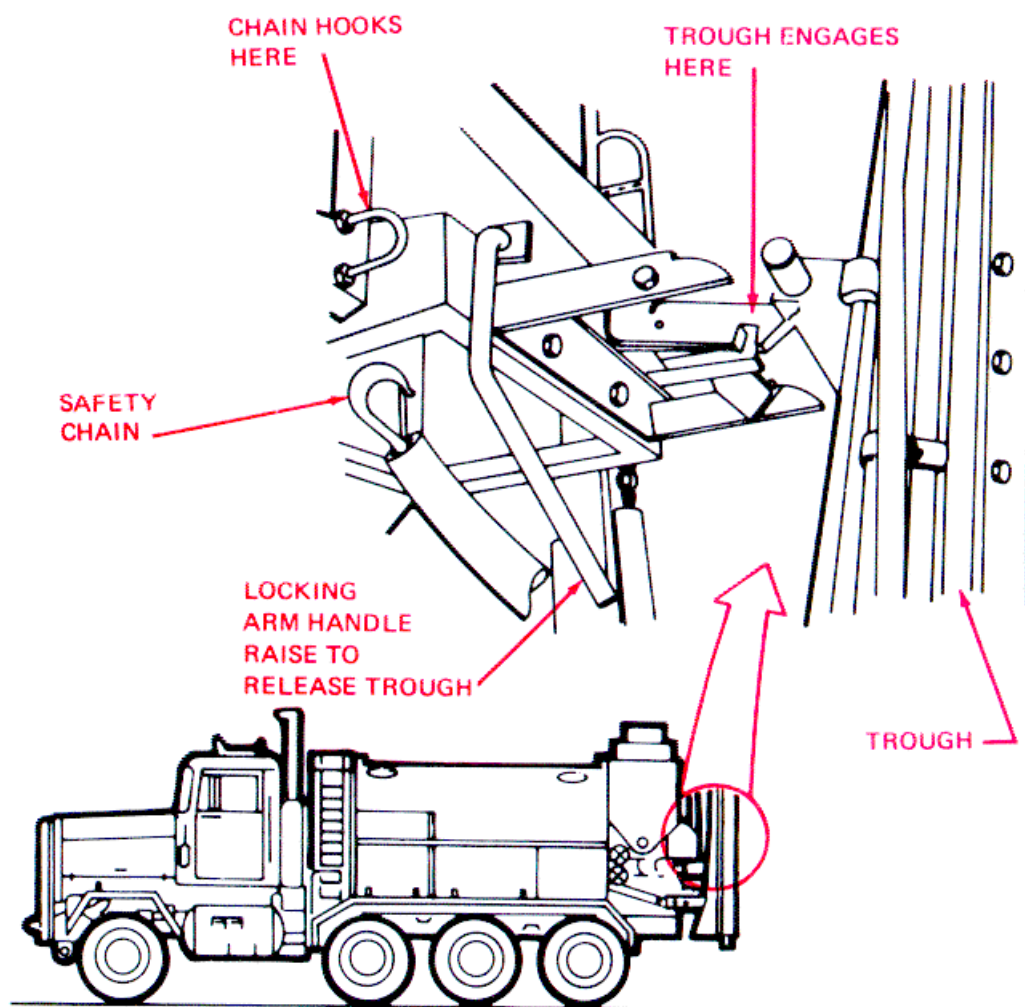

Figure 2-27. Mixing Trough Chain and Locking Arm.
- (1) Unhook safety chain (fig. 2-27).
- (2) Raise the locking arm handle to release the trough